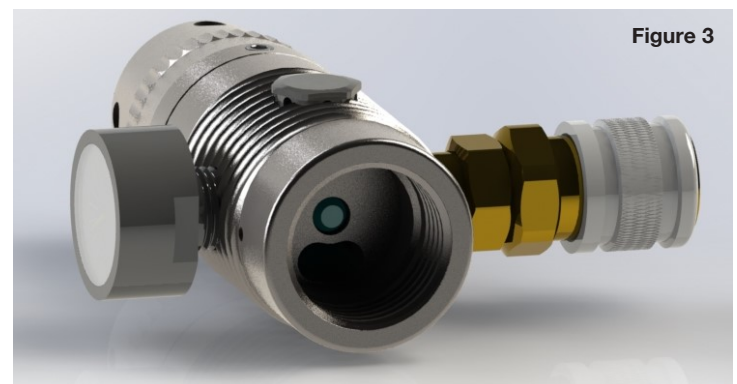

Figure 3
6. Remove LPRV2 Piston #9 by light pressing an Allen key through the center hole on the Air Source Attachment side (Figure 3: X)
1. Reinsert LPRV2 piston # 9 pin- side first. Be certain the pin enters the center hole (Figure 3: X)